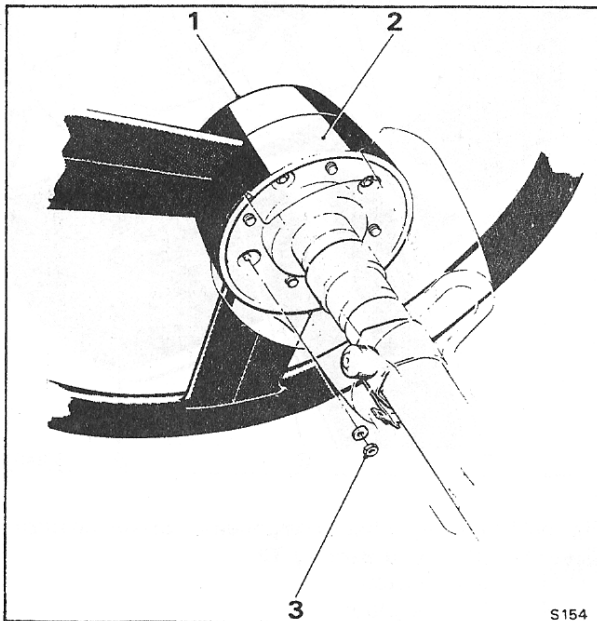

Fig. N29 Horn button removal. Prior to car serial numbers Corniche 32633 Camargue 32035
On Corniche and Camargue cars prior to car serial number Corniche - 32633 and Camargue - 32035 the spokes and horn button are completely covered with black leather. Though of a similar construction to the Silver Shadow II wheel it has a different fixing for the horn button and attachment to the steering column hub (see Fig. N29).
2. Unscrew the four nuts located behind the steering wheel and remove the horn button assembly from the steering wheel centre (see Fig. N29).